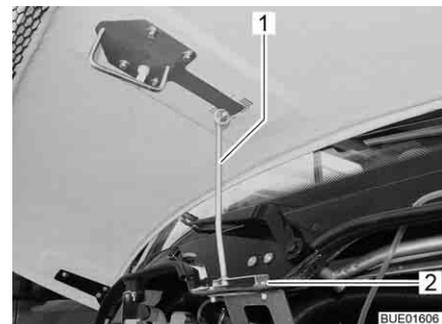

Fig. 41 Bonnet supports (Viseo)
- Unfold the supports (Fig. 41,1) and attach to the holder (Fig. 41,2).